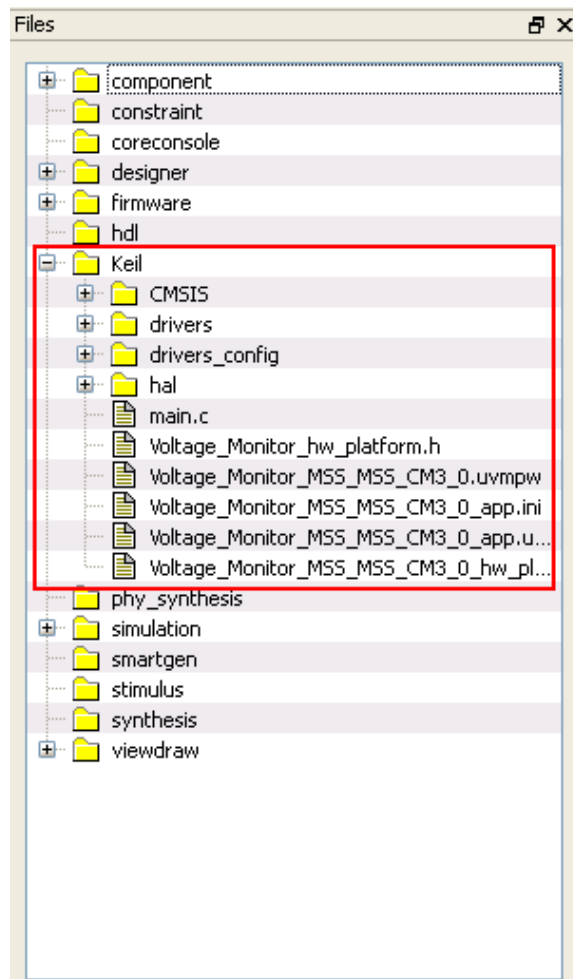

Figure 23 · Files Window
7. Confirm that the Keil folder is created with the subfolders and files shown in Figure 23 .